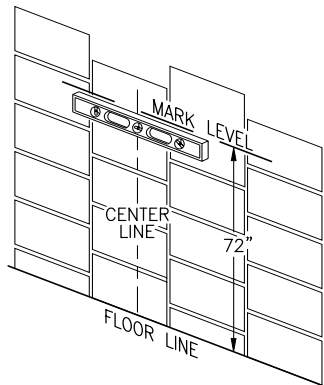

Figure 3 - Center-line Mark
1. Determine and mark the vertical center line for installation of the AutoSwitch Console. (Figure 3).